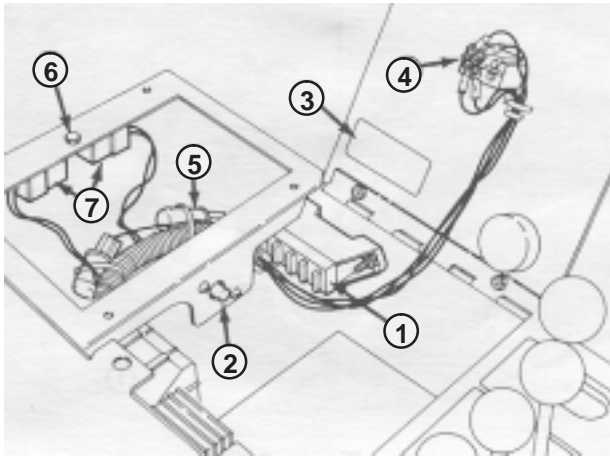

Figure 14
4. Insert a 1/4–20 x 1/2” lg. capscrew down through the rear hole in the rear plate. Mount the relays onto the capscrew and secure to the plate with a Keps nut (Fig. 14).
5. Connect the wire harness connectors to the relays (Fig. 14).